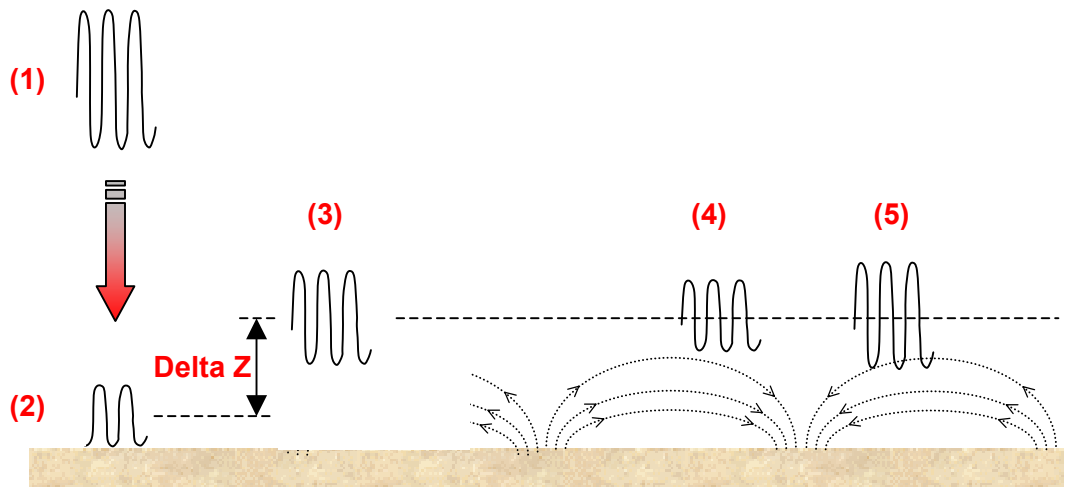

Figure 13-7 Amplitude of tip vibration in different locations with respect to the surface.
There are several interrelated factors which determine the closest distance between the vibrating probe and the surface. These include the bimorph drive voltage, the bimorph frequency, the vertical offset *Delta Z*, and the feedback damping percentage. The connection between these factors is illustrated in Figure 13-7. Waves (1) through (5) in this diagram indicate the amplitude of vibration of the cantilever tip in different locations with respect to the surface. In normal instrument operation the free cantilever vibration amplitude is adjusted via the bimorph amplitude and